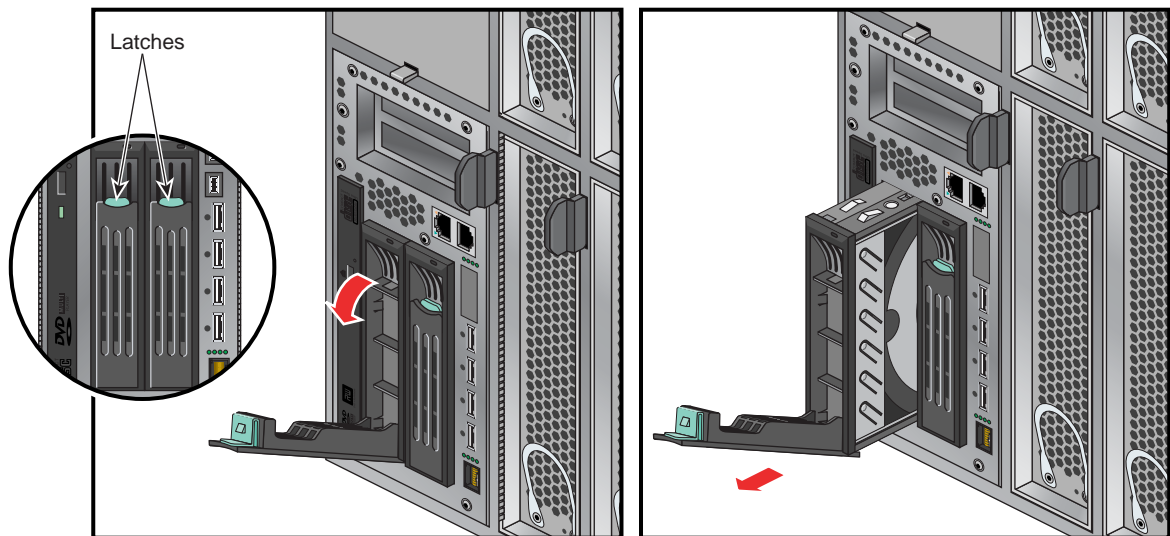

Figure 6-29 Removing a Disk Drive
1. Open the front of the rack and access the two disk drive bays, as shown in panel 1 of Figure 6-29.